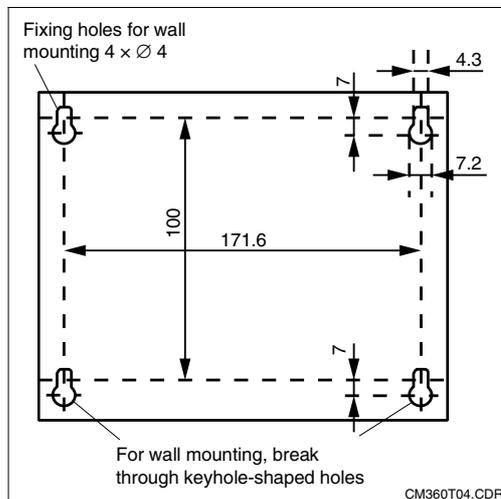

Fig. 3.4 OCM 360, Screw locations for wall mounting
- Hold instrument against wall and draw screw positions or define as described in Fig. 3.4.